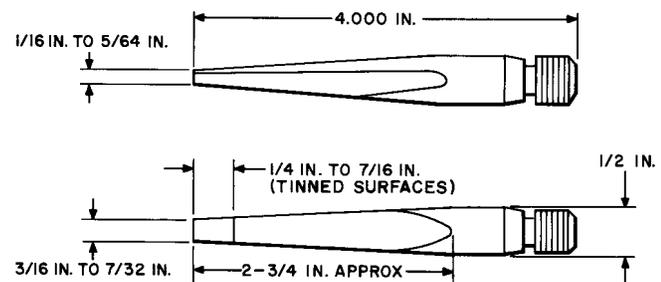

Fig. 4—Shaping Plain Copper Tips
5.01 Plain copper tips may be shaped by filing as shown in Fig. 4. (IRONCLAD TIPS INCLUDING THOSE COATED WITH A DIELECTRIC SHOULD NOT BE RESHAPED.) Defective tips should be replaced in accordance with the appropriate section in Division 075.